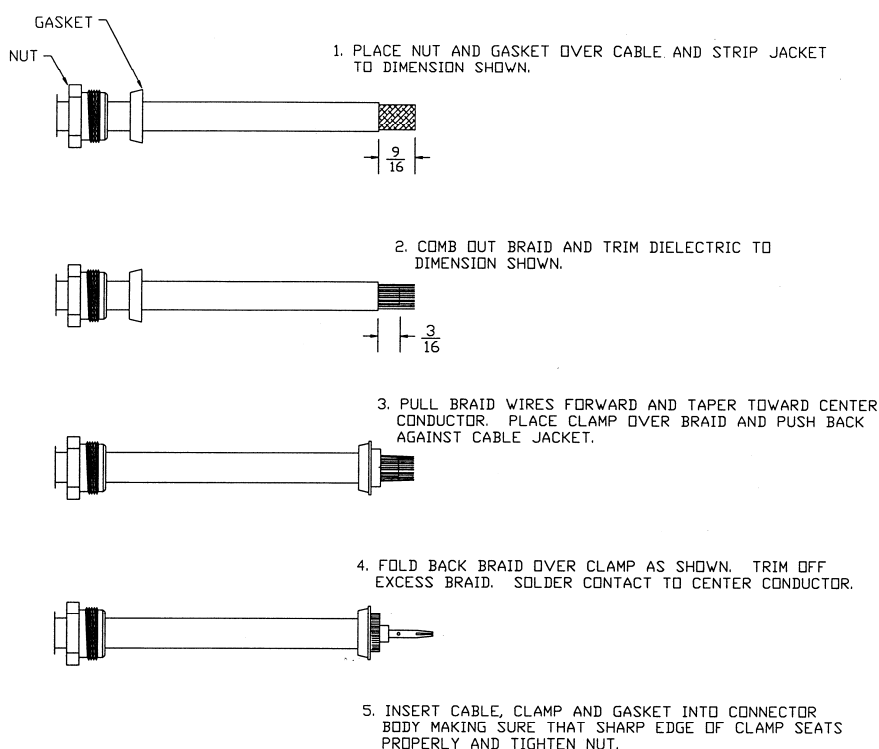

Figure 1-2. Coaxial Cable Installation
2. Trim the coaxial cable to the desired length and install the BNC connector (330-00087-00) per the cabling instructions on Figure 1-2. If the connector is provided by the installer, follow the connector manufacturer's instructions for cable preparation.